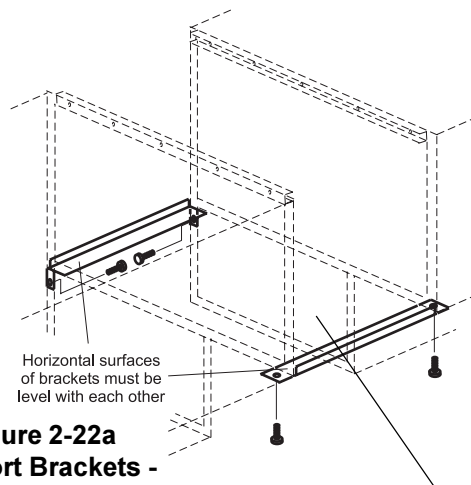

Figure 2-22a
- Attach the two angled support brackets between the two center ovens, as shown in Figures 2-22a and 2-22b.